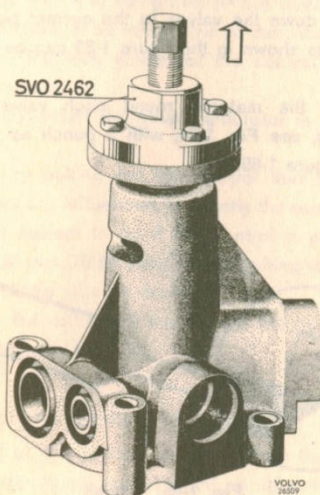

Fig. 1-87. Removing the hub
2. Fit puller SVO 2462 on the hub with the bolts for the pulley and pull off the hub. See Fig. 1-87.